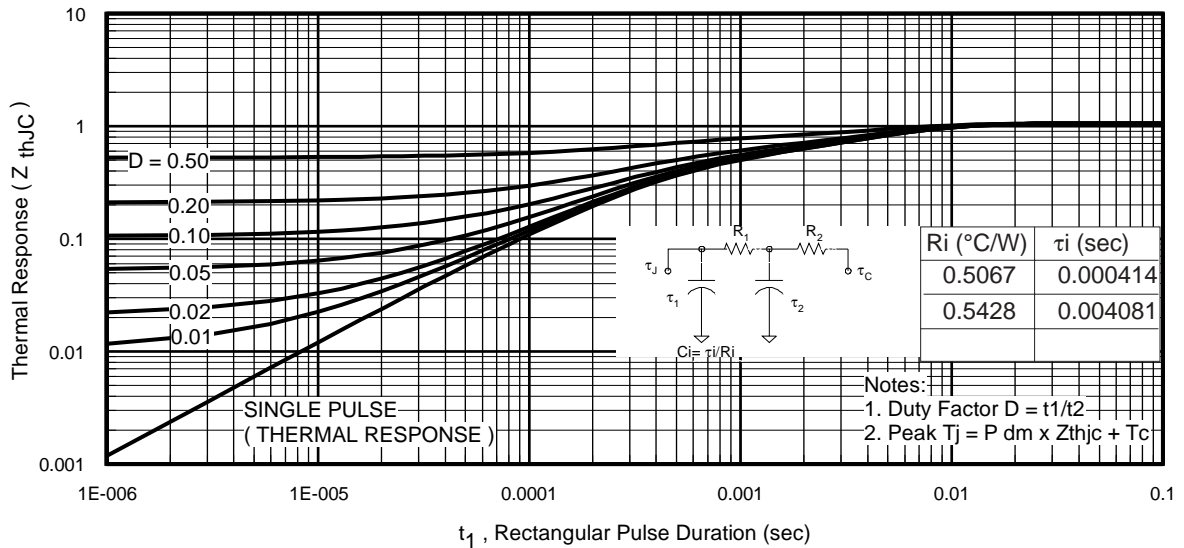
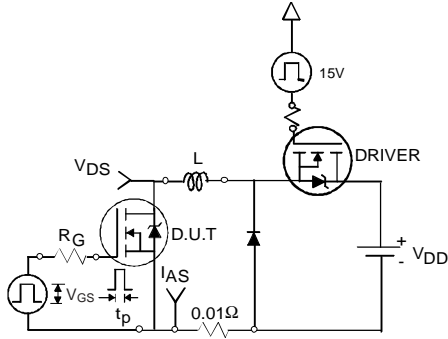

Fig 11. Maximum Effective Transient Thermal Impedance, Junction-to-Case
Fig 12a. Unclamped Inductive Test Circuit
3. Equation below based on circuit and waveforms shown in Figures 12a, 12b.
$Z_{thJC}(D, t_{av})$ = Transient thermal resistance, see figure 11)
- ① Repetitive rating; pulse width limited by max. junction temperature. (See fig. 11).
- ② Limited by T_{Jmax} , starting $T_J = 25^\circ C$, $L = 0.16mH$, $R_G = 25\Omega$, $I_{AS} = 42A$, $V_{GS} = 10V$. Part not recommended for use above this value.
- ③ Pulse width $\leq 1.0ms$; duty cycle $\leq 2\%$.
- ④ C_{OSS} eff. is a fixed capacitance that gives the same charging time as C_{OSS} while V_{DS} is rising from 0 to 80% V_{DSS} .
- ⑤ Limited by T_{Jmax} , see Fig.12a, 12b, 15, 16 for typical repetitive avalanche performance.
- ⑥ This value determined from sample failure population. 100% tested to this value in production.
- ⑦ When mounted on 1" square PCB (FR-4 or G-10 Material). For recommended footprint and soldering techniques refer to application note #AN-994